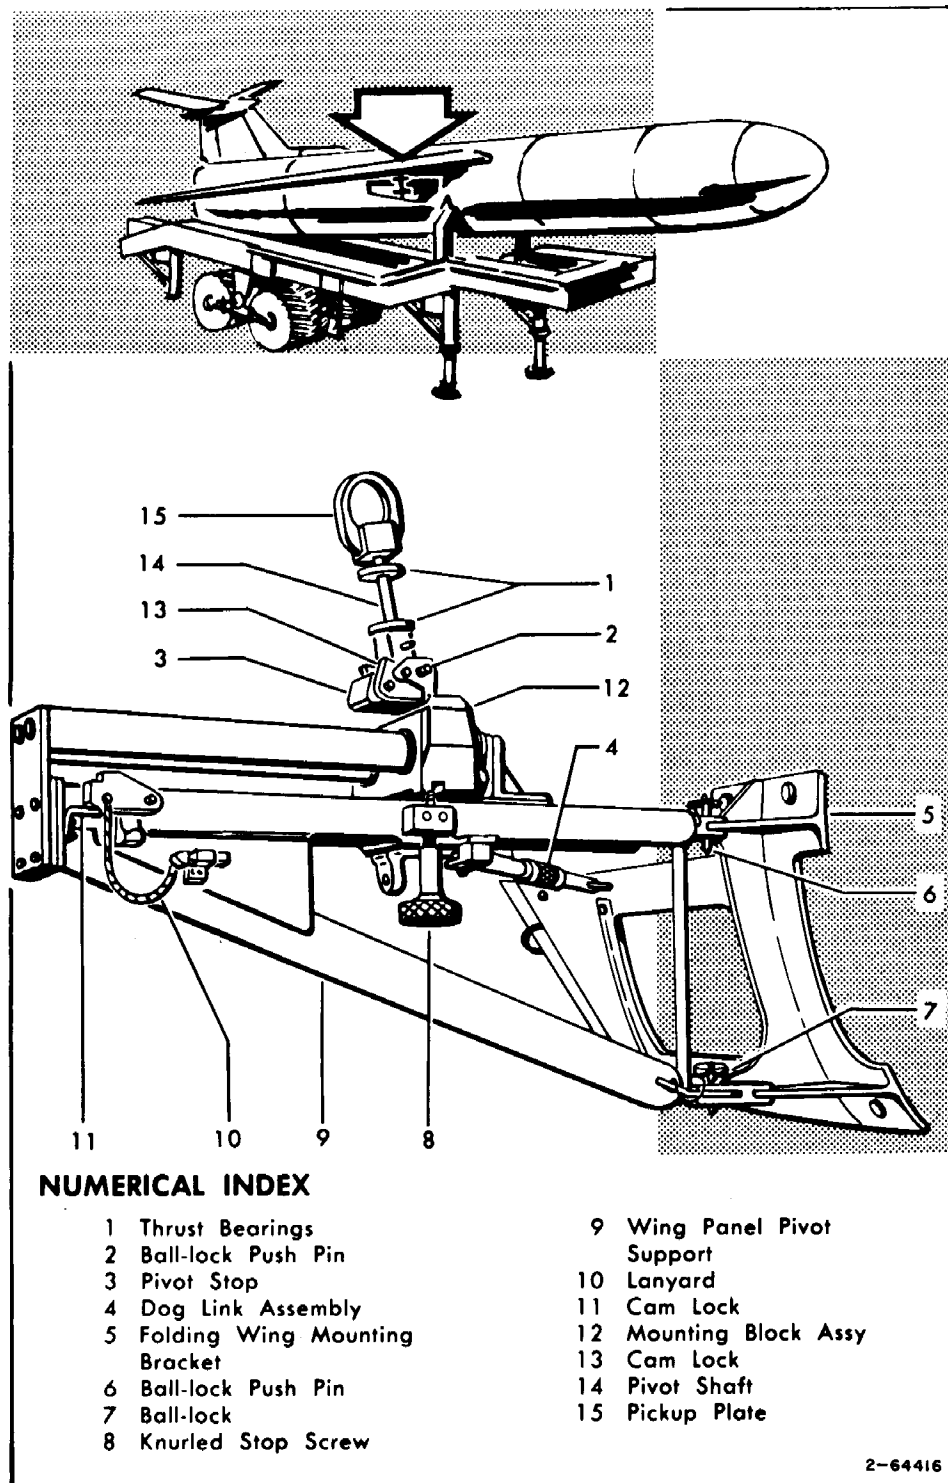

Figure 3-28. Folding Wing Mechanism
- c. Rotate knurled stop screw (8, figure 3-28) on left wing panel pivot support to release mounting block assembly.
b. Rotate knurled stop screw (8, figure 3-28) on right wing panel pivot support to release mounting block assembly (12).
- a. Position right folding wing mechanism (figure 3-28) on right side of Missile.